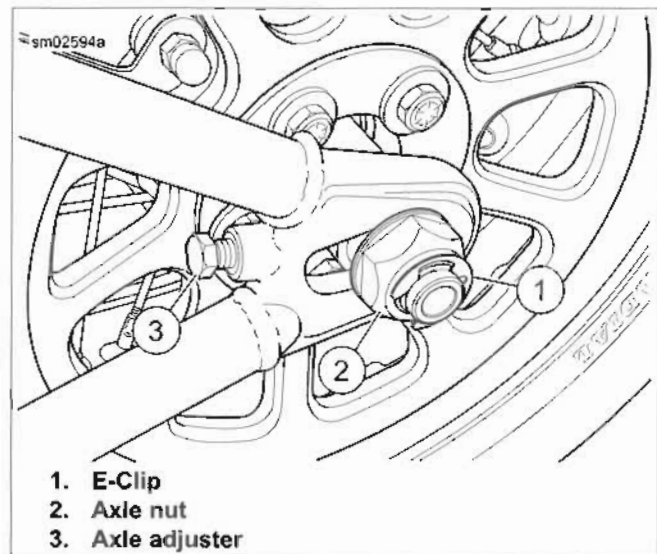

Figure 5-36. Axle Adjusters
3. See Figure 5-36. Remove e-clip (1). Loosen rear axle nut (2). Loosen both axle adjusters (3) to release tension on the drive belt.